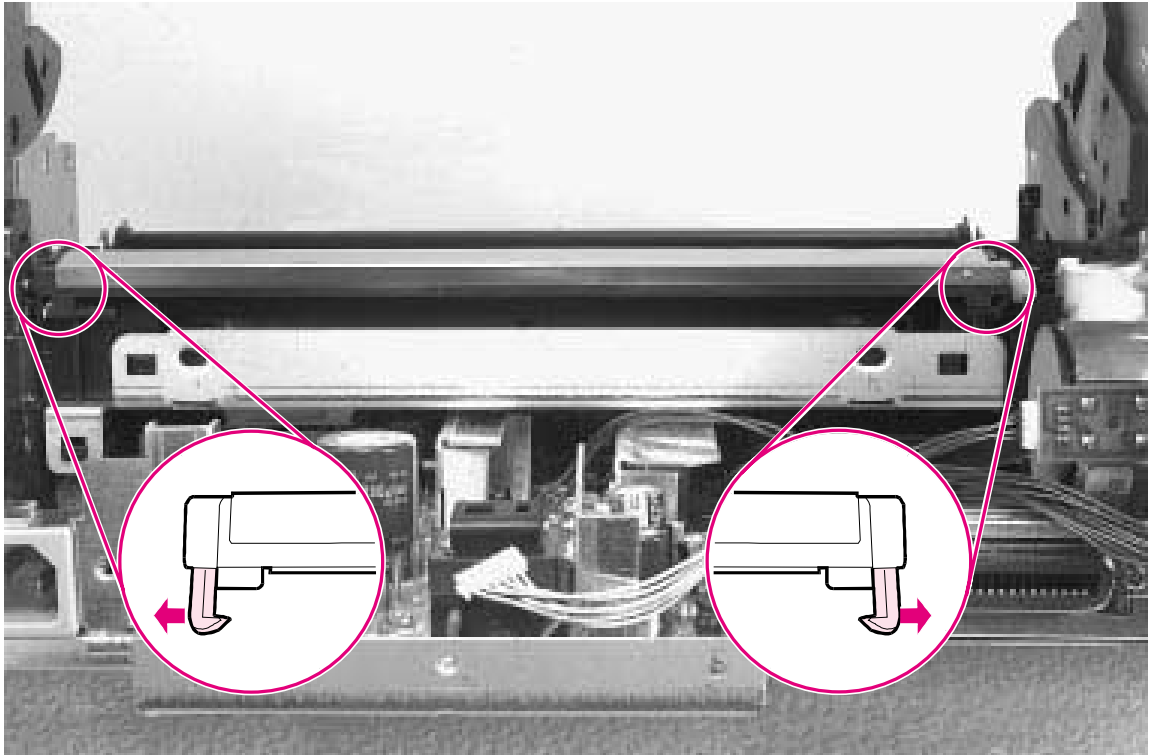

Figure 6-30 Transfer Roller Guide and Transfer Roller removal (inside/back view)
- 2 Looking at the back of the printer, note the two small, hook-shaped release tabs on each end of the Transfer Roller guide. Using a small, flathead screwdriver, carefully pry each tab outward to release it (Figure 6-30).